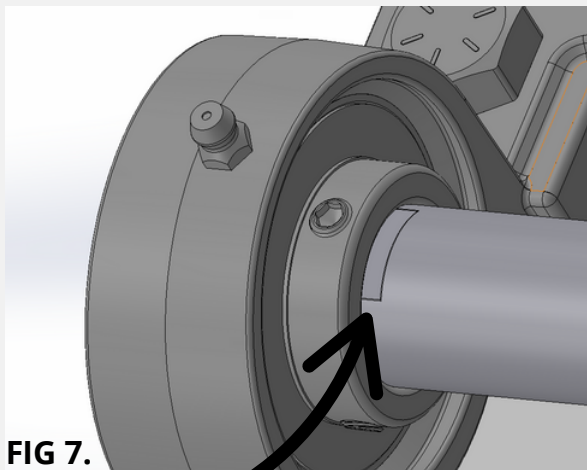

FIG 7.
7. Make sure that one of each Bearing has a set screw lined up with the flats on the Bearing Shaft, as shown in Fig. 7. There should be approximately 1/2" of Shaft past the Bearing.